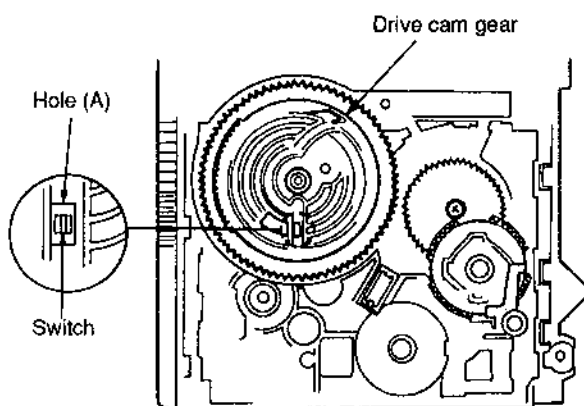

Fig. 4
7. Align the hole (A) of the drive cam gear with the switch, and then insert the drive cam gear. (See Fig. 4)